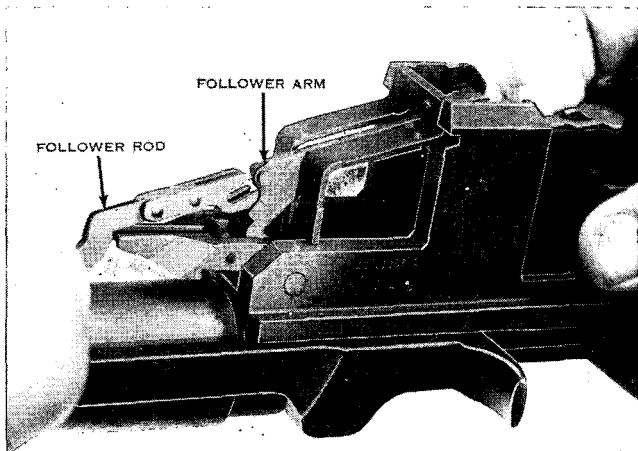

Figure 39. Replacing the follower rod and operating rod spring.
h. Insert the operating rod spring into the operating rod. Grasp the follower rod with the fingers of your left hand. Make sure that the hump of the follower rod is toward the barrel. Push toward the muzzle, compressing the operating rod spring, and hook the claws of the follower rod with the front studs of the follower arm (fig. 39). You may have to raise the follower assembly